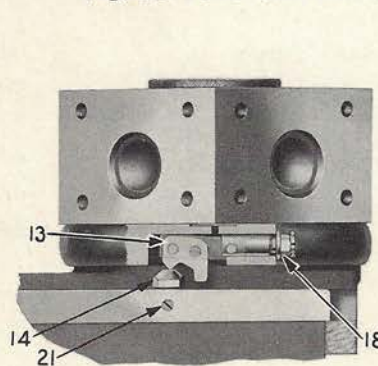

Fig. 27. Turret Binder Mechanism
2. At the same time the turret binder ring has been released, because toggle (13,) Fig. 27 has been swung to the unlatched position by its passing over stud (14) on the rear top cap.
7. Now adjust nut (18), Fig. 27, so that it is possible to just barely rotate the turret when pulling steadily and firmly with one hand on the bar projecting from the turret hole. (See item (3) above).
8. Lock this adjustment with cotter pin through castellated nut (18) Fig. 27.
2. On the other hand, if binder ring is not clamped tightly enough there is no strain on the toggle when the turret is working and vibration will cause the toggle to fall down to its loose position. This also can cause ring breakage, because the toggle will then bump into stud (14), Fig. 27, on its return stroke instead of rocking over it.